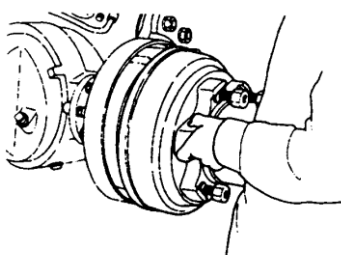

Fig.2-9
- d) Remove brake drum (refer to Fig.2-9) ;